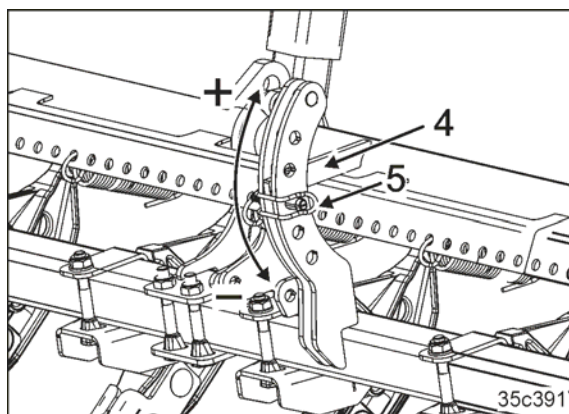

Fig. 190
5. Insert the pin into the desired hole underneath the lever (Fig. 190/4) and secure (Fig. 190/5)
6. The higher the pin is inserted in the adjustment scale (Fig. 190/1+), the greater the exact following harrow pressure.